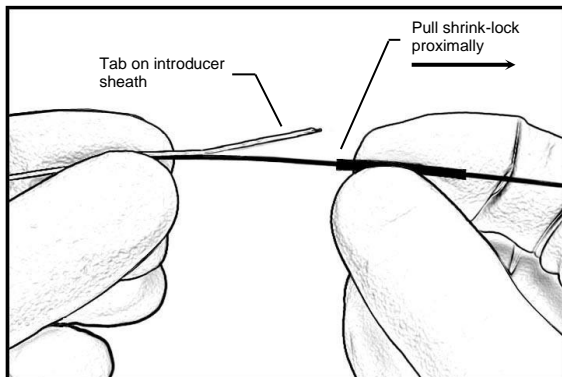

Figure 3 - Pull Shrink Lock Proximally
17. Hold the device just distal to the shrink-lock and pull the shrink-lock proximally to expose the tab on introducer sheath. See Figure 3.